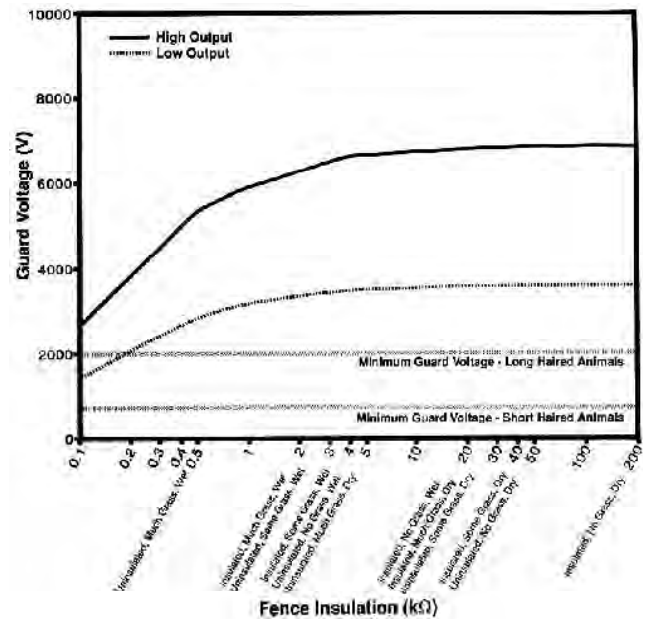

FIGURE 2. Guard Voltage for a 3.3 mi (5.4 km) Single Wire Fence.
**Shock Delivery:** FIGURES 2 and 3 show guard voltage outputs of the Battery Saver for 3.3 and 10 mi (5.4 and 16 km) lengths of single wire fence over a range of insulation resistances.
With the switches set at High and Normal on a 3.3 mi (5.4 km) fence (FIGURE 2), guard voltage output varied from 6870 V for a well-insulated, grass-free, dry fence to 2710 V for an uninsulated wet fence with considerable grass touching the charged wire.
Guard voltage was 6660 V for a clean fence and 2230 V for a weeded fence. Guard voltage with the shock intensity switch set at Low was reduced, as shown in FIGURES 2 and 3. The voltage output for most fence conditions was above the 2000 V minimum guard voltage needed to shock long-haired animals, and was above the 700 V minimum guard voltage for all fence conditions.
As can be seen from FIGURES 2 and 3, plant growth touching a fence did not appreciably affect shock delivery, since the voltage output was above 2000 V for nearly all fence conditions. The Battery Saver can be expected to deliver shocks over a wide range of fence conditions.